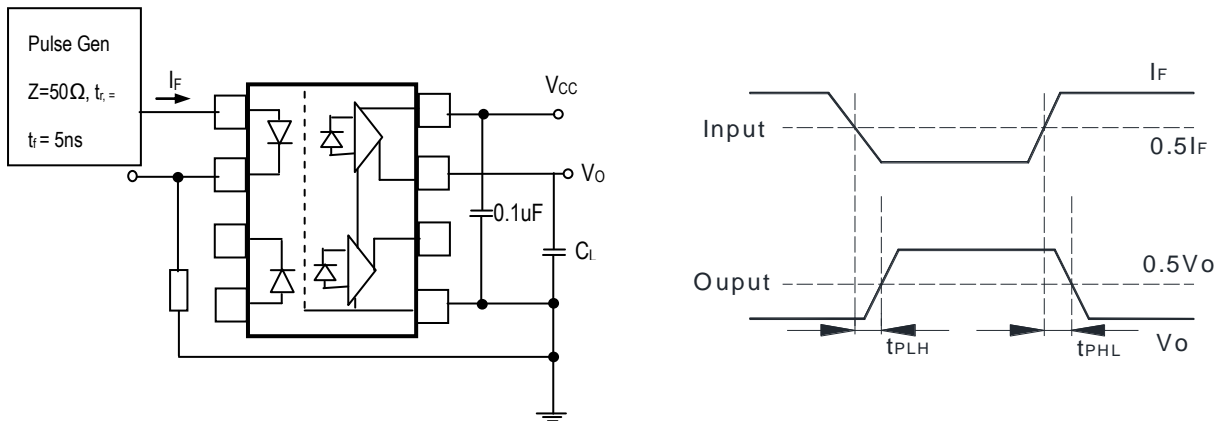

Figure 1: Two Channel Test Circuit for t_{PHL} and t_{PLH}
1. A 0.1 μ F or bigger bypass capacitor for V_{CC} is needed as shown in Fig.1